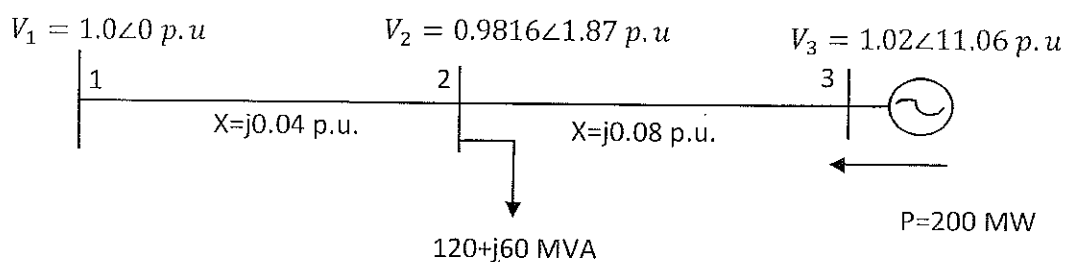

Figure Q5
- Load flow calculation of a power system shown in figure Q5 has been carried out by using Newton-Raphson method. Bus voltages after number of iterations are indicated in the figure. Convergence tolerance was set as 1 MVA. Line reactance are given on 220 kV, 100 MVA base.